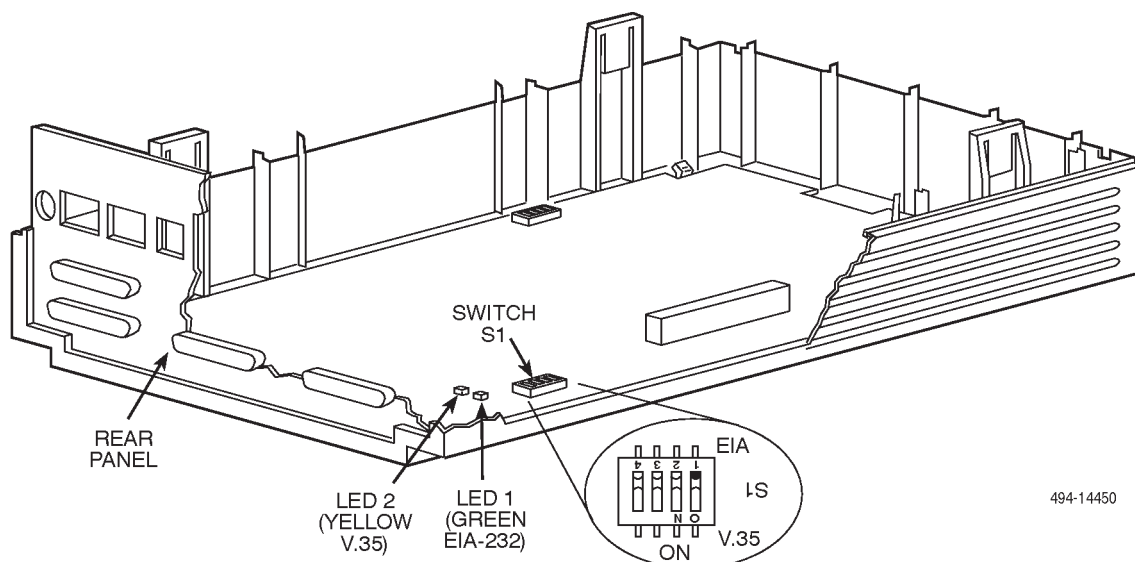

Figure 2-5. Changing TDM/Flex or MCMP/Flex Interface Compatibility
2. Locate interface Switch S1 on the TDM/Flex or MCMP/Flex circuit card (Figure 2-5).